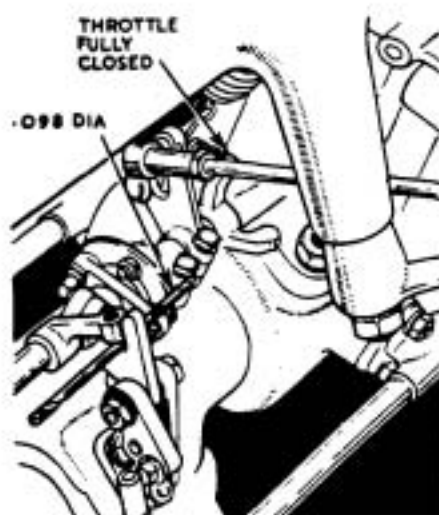

FIG.2.
- (b) With the front carburettor throttle fully closed, tighten the front coupling pinch bolt to give .098" (2.5 mm) clearance between the fast idle lever and the cam (Fig.2.). The adjusting screw hole in the lever should be central with the cam face.